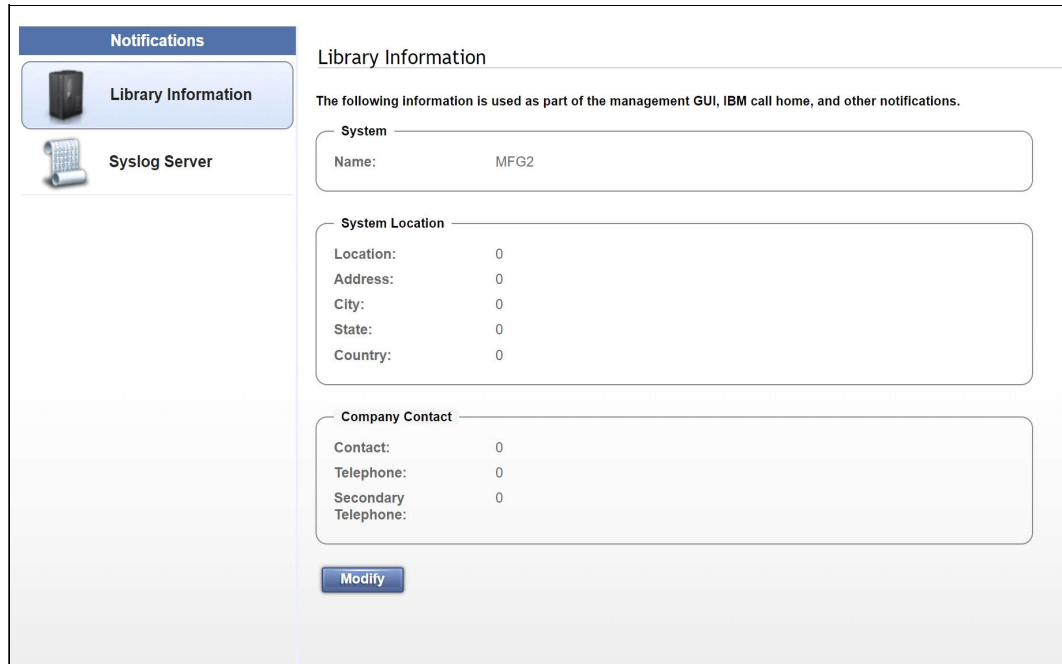

Figure 5-116 Notifications page
Select Notifications on the Settings menu to access the Notifications page to configure the sender information, recipient information, and library information for the Diamondback tape library notifications. The Notifications page contains several options, as shown in Figure 5-116 on page 133.
1. Click **Modify** on the Library information window, as shown in Figure 5-116.